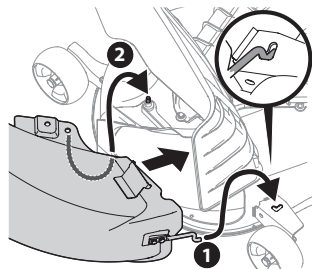

Figure 22
4. Insert the end of the discharge chute elbow (1) into the hole provided in the deck wheel mount as shown in the inset of Figure 22.
5. Pivot the discharge chute rearward until the hole in the discharge chute elbow aligns with the pin on the deck adapter. Move the discharge elbow down onto that pin as shown in 2 of Figure 22.